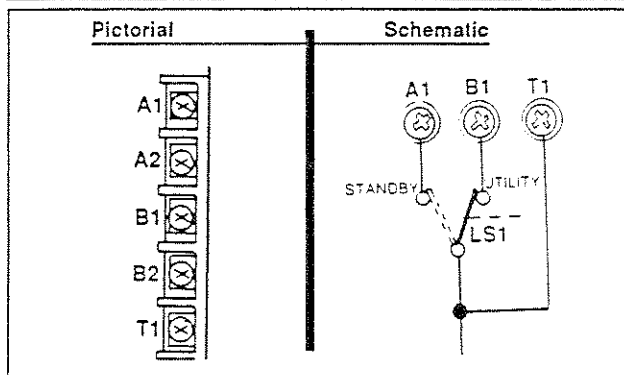

Figure 5. Limit Switch LS1 Test Points
4. Connect the VOM test leads across transfer mechanism terminals B1 and T1 (Figure 5).